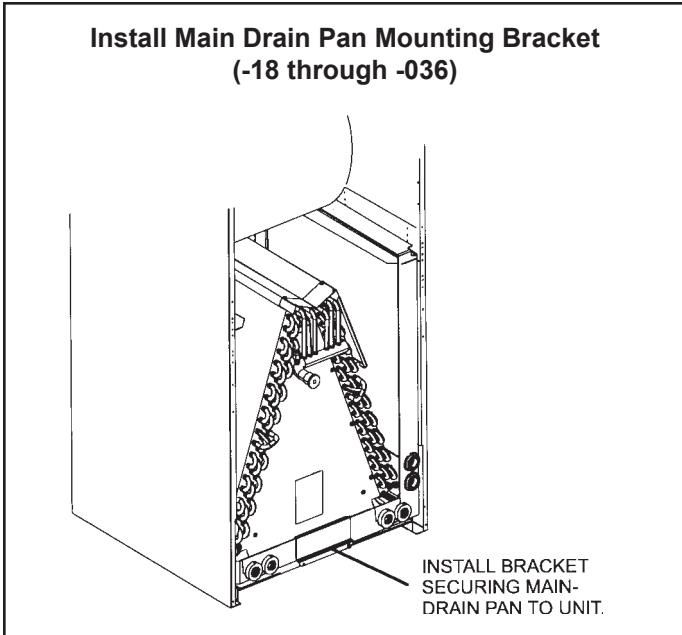

Figure 6
5. Re-install modified coil/drain pan assembly in air handler in the same orientation as before (Figures 6 and 7).